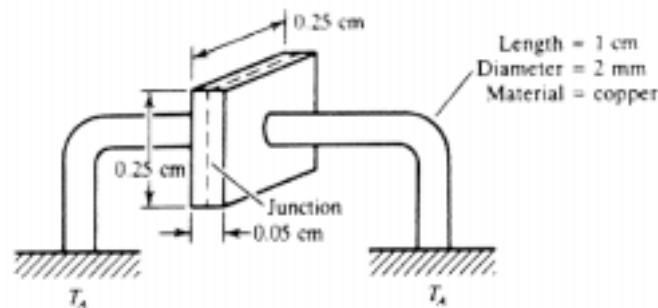

Figure 1
Figure 1 shows the internal structure and dimensions of a power diode mounted in an axial lead package. The diode is cooled by conduction through its leads, which are soldered to terminals that are assumed to be at temperature T_A . Heat is generated at the junction of the diode, which is planar and centered between the two surfaces. The thermal resistivity of Silicon is $1.2\text{ }^\circ\text{C-cm/W}$, and the thermal resistivity of copper is $0.25\text{ }^\circ\text{C-cm/W}$.
- Draw the analog circuit model for the thermal system of Fig. 1